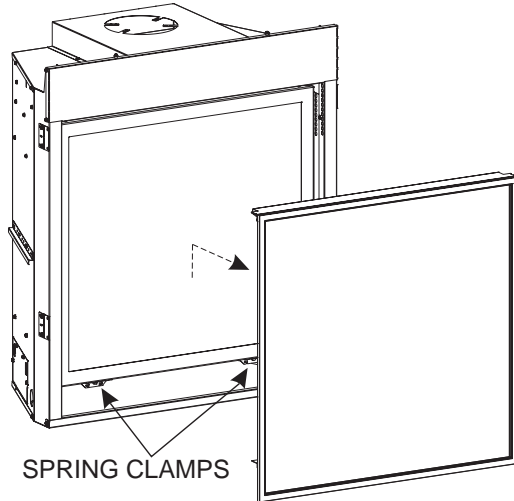

Figure 76
- Check all latches or other door retention components for proper operation, tension, and relief mechanisms are free from obstructions. **See Figure 76.**
- Check the barrier screen for fit and structural integrity. **See Figure 76.**